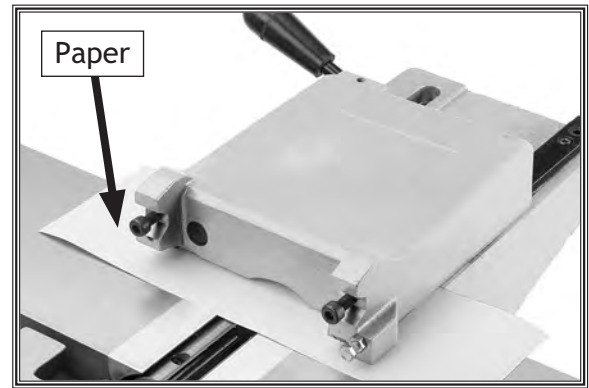

Figure 18. Carriage resting on paper to prop it up during tightening.
22. Place three pieces of paper on the jointer bed, slide the top half of the carriage over the paper, and allow it to rest on the paper, as shown in Figure 18.